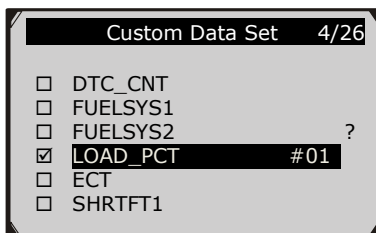

Figure 5.17
- 3) Use the **RIGHT** button select/deselect data parameters. Selected parameters are marked with solid squares. Press the **OK** button to confirm. (Figure 5.17)